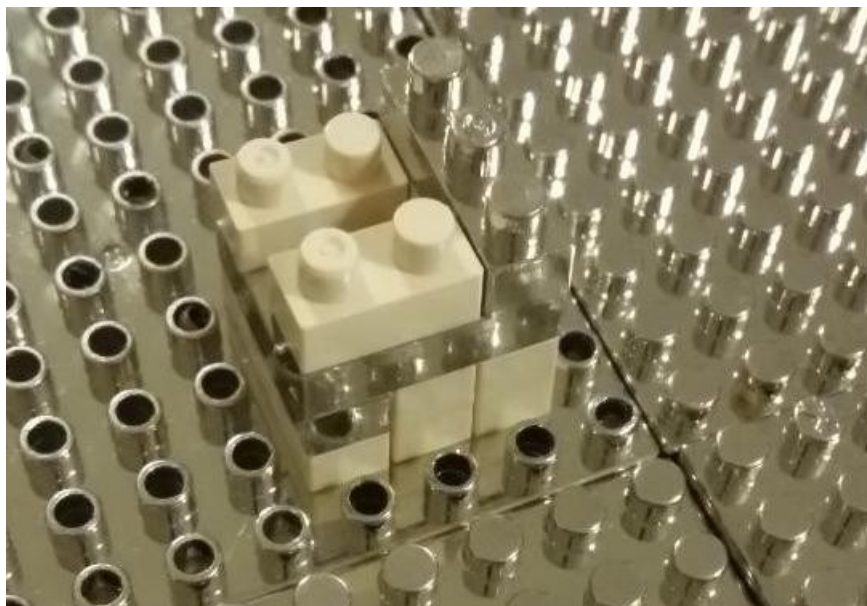

Figure 18 NMHA-2 above the ground plane.
19. Locate the 1X3 feed dielectric cell with a hole above the inner conductor of the connector. Locate 2 more 1X3 feed dielectric cells near that cell. Locate the 1X3 feed metal cell above the inner conductor pin. Be careful to locate the insert of the feed cell above the pin. The NHMA-2 experiment needs to start as in Figure 18.